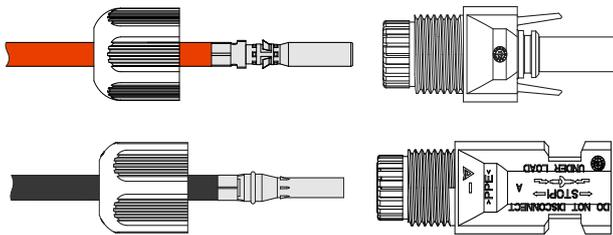

Figure3-34 Fasten the metal terminal
Step 4 Insert the positive wire and negative wire into corresponding insulation crust respectively. If there has a click sound, it means that the wire have been inserted properly, as shown in Figure3-34.